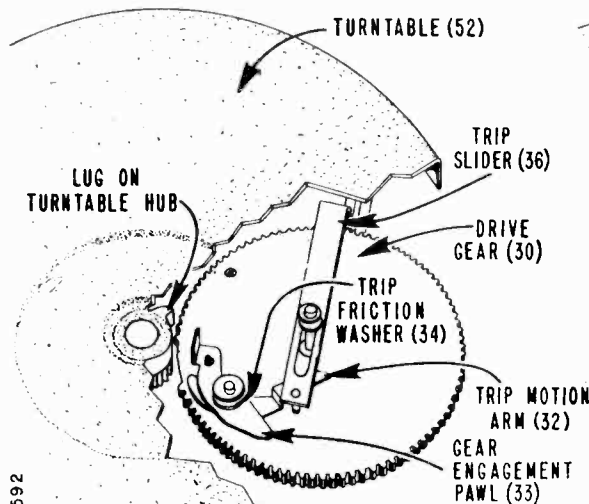

Figure 2A. Drive Gear Position Out of Change Cycle.
This changer employs a velocity trip, which consists primarily of two parts: the trip motion arm (32), and the gear engagement pawl (33). These parts are mounted near the "dead spot" on the drive gear. See Figure 2A.
This record changer uses a velocity type trip, which depends upon a rapid movement of the tone arm toward the centerpost in any area between  $2\frac{7}{8}$ " to  $7/8$ " from the center of the record. **This trip requires no adjustment.** However, in order for the changer to trip properly, there must be sufficient friction between the trip motion arm (32) and the gear engagement pawl (33). If the friction is lost, a small amount of lubricant (such as lubriplate #110) should be placed between these parts. If this does not help, it may be necessary to replace the trip friction washer (34). See Figure 2A.